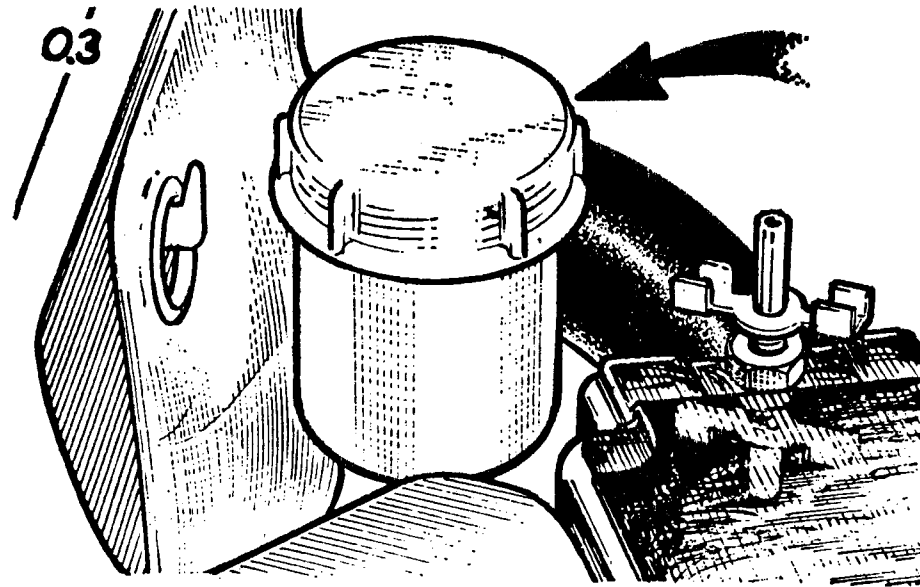

Fig. 18. Brake fluid reservoir
*Brake Fluid Reservoir*—The brake fluid reservoir is located in the radiator compartment, on the driving side. See Fig. 18 or 19. Check fluid level in the reservoir at intervals of every 5,000 miles (8,000 km.), topping-up if necessary to within 1/2 in. (12 mm.) of the top. Use only the specified fluid for topping-up.